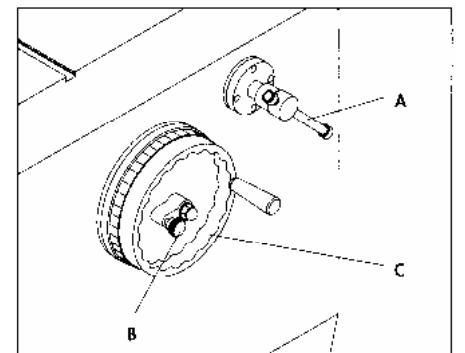

Fig.3.18
1. Loosen the locking handle (A) and knob (B) Fig. 3.18.
2. Turn the handwheel (C) and adjust the height to the required position.
3. Lock the knob (B) and locking handle (A).